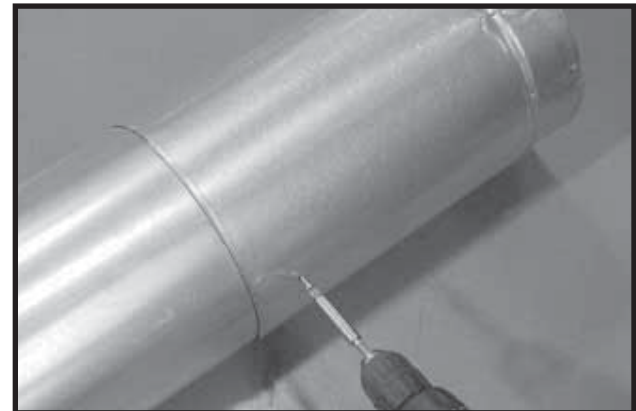

Figure 35. Screws into Slip Section
- Secure the pipe and slip section with two screws no longer than 13 mm, using the pilot holes in the slip section. See Figure 35.